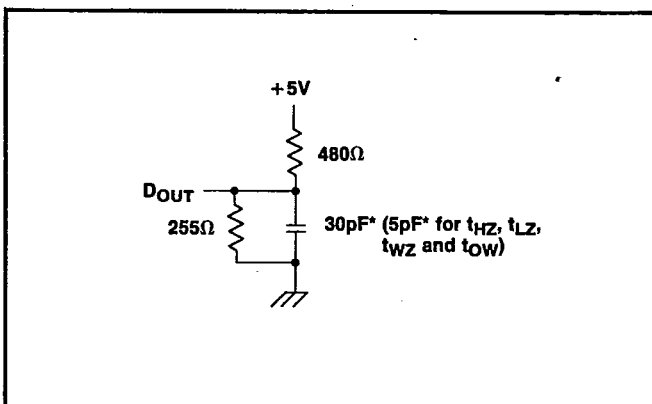

Figure 1. Output Load
- Transition is measured ±200mV from steady state voltage prior to change, with loading as specified in Figure 1.
Output Load	See Figures 1 and 2